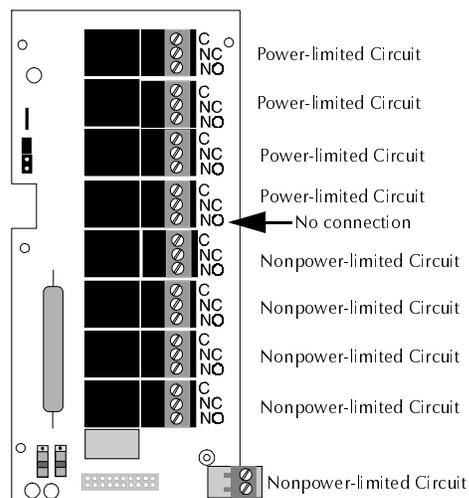

Figure 13 Fire•Lite RTM-8F UL Wiring
2. If this module is needed to drive power-limited and nonpower-limited relays that are next to each other, make no connection to the Normally Open contact which separates the two groups of relays. Refer to the wiring diagram in Figure 13.